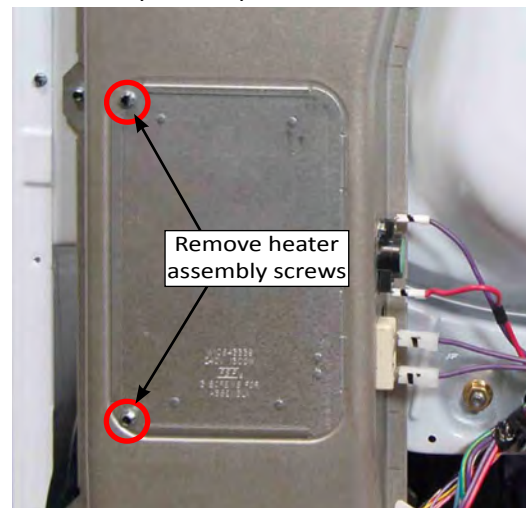

Figure 4
6. Remove the two (2) 1/4" hex-head screws securing the heater assembly to the inlet duct (see Figure 4). Remove heater assembly from dryer.